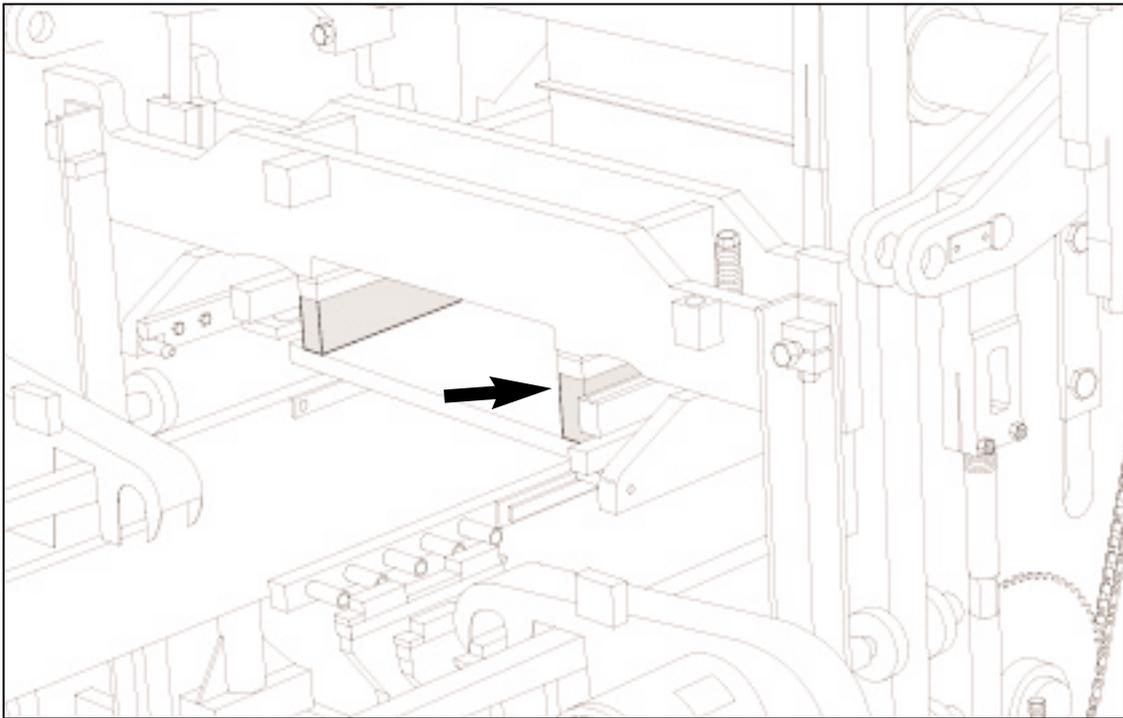

Figure 4.49 95mm [3 3/4"] BLOCKING UNDER STRIPPER HEAD FRAME.
4.3.10 The SUPERPAC is now ready for the installation of the mold assembly. Follow the directions for installing an attachment in section 5 of this manual. When installing the stripper head use **279mm [11"]** long bolts (**part #087136**) and insert **95mm [3 3/4"]** of blocking in addition to the **38mm [1 1/2"]** blocks already affixed to the stripper head frame (figure 4.49).